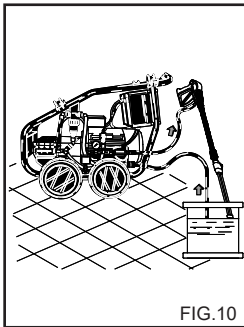

FIG.10
**FILLING WITH ANTIFREEZE (fig. 10)**